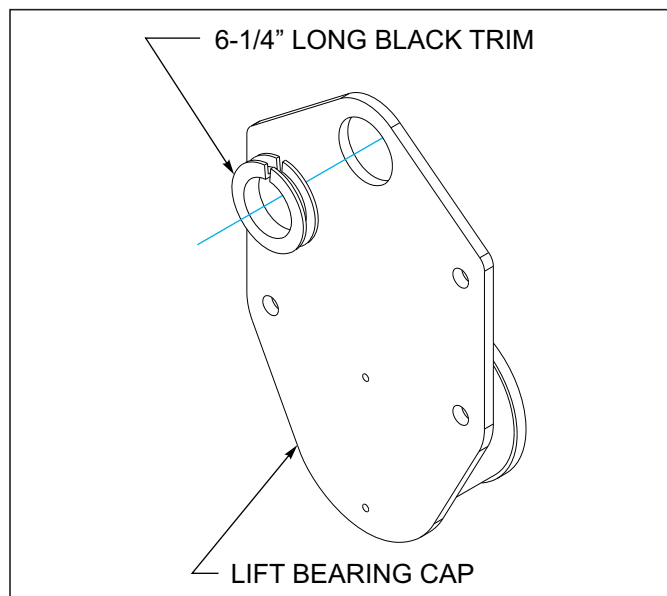

Figure 3-9: Trim Installation
11. Install a 6-1/4" long piece of black trim in the top hole of the lift bearing caps. Outer wing bearing caps do not require trim. Route rear fold and lift hydraulic hoses through bearing caps between frame sections See Figures 3-9.